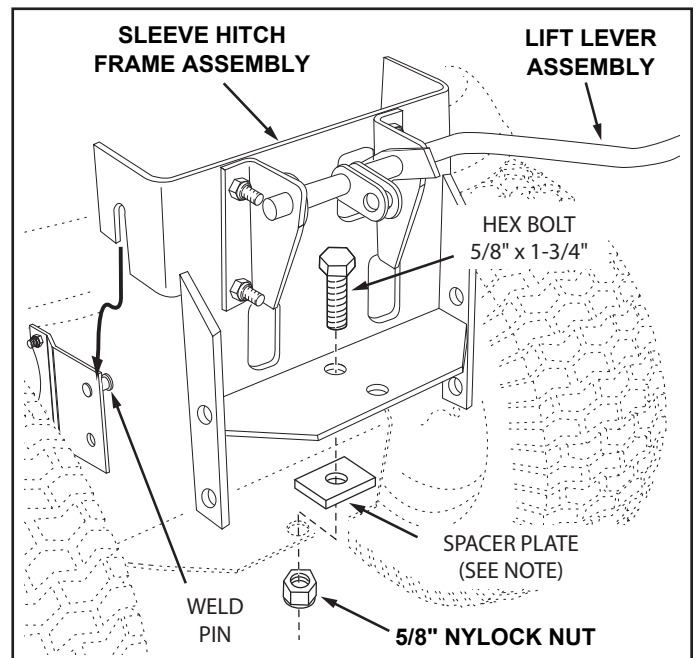

FIGURE 6
- Hook the Sleeve Hitch Frame Assembly onto the weld pins in the mounting brackets. Attach the bottom of the Assembly to the tractor hitch using a 5/8" x 1-3/4" hex bolt and a 5/8" nylock nut. See figure 6.